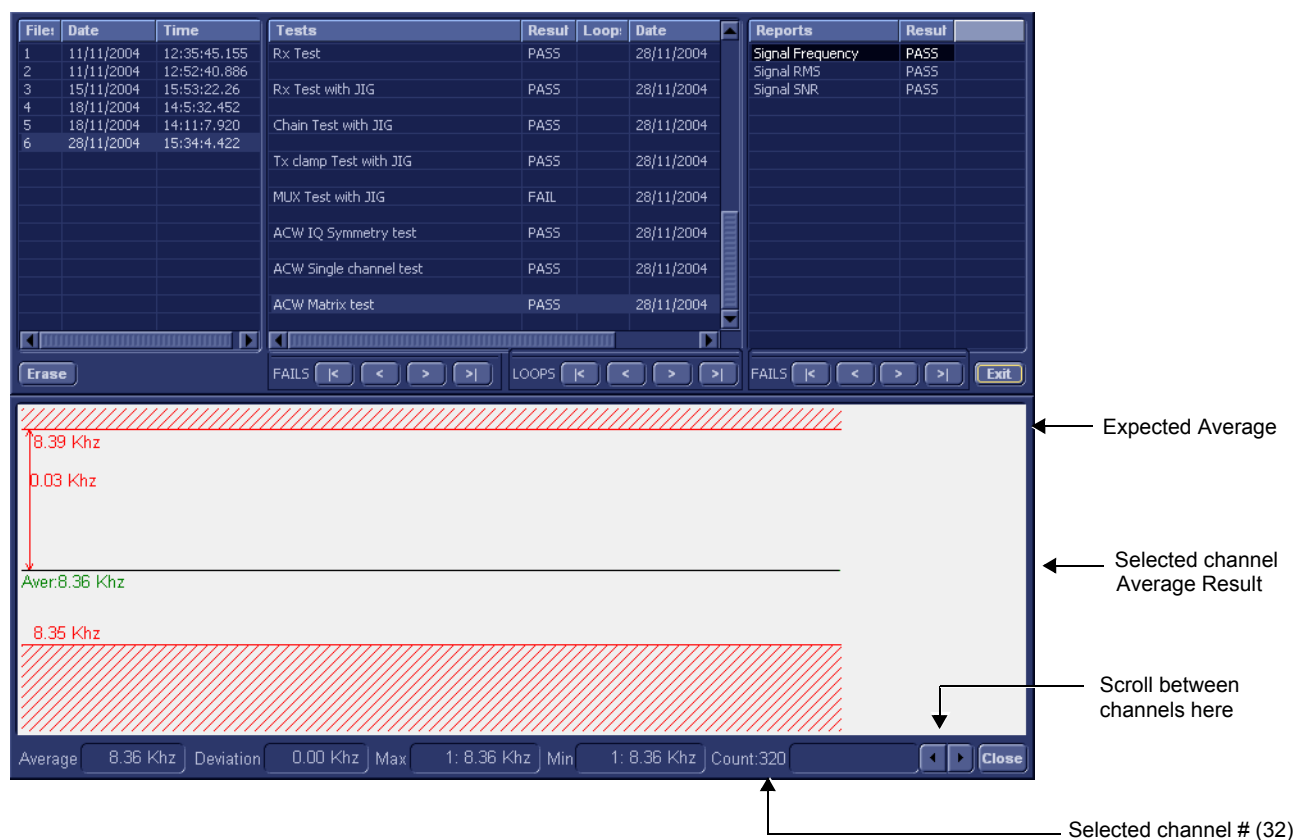

Figure 7-38 View Test Log - ACW Matrix Test - Signal Frequency
- the View Test Log window opens automatically, listing all tests performed and showing details of which tests passed or failed, as shown in the example in Figure 7-38.
Note: The ACW Matrix Test test has three test reports (*Signal Frequency*, *Signal RMS*, and *Signal SNR*) which are listed in the *Reports* window on the right. By default, the *Signal Frequency* report is displayed in the Reports window below (Figure 7-38).
The signal should be within the limits marked in the white area (the dotted line represents the Average), as shown in Figure 7-38.